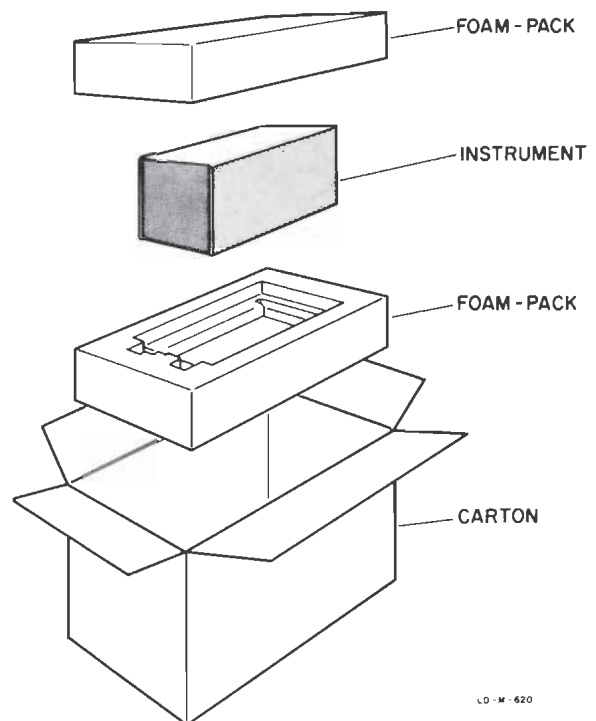

Figure 2-5. Repackaging for Shipment
2-18. The Model 431B is shipped in a foam-pack and cardboard carton (see figure 2-5). When repackaging the instrument for shipment, the original foam-pack and cardboard carton can be used if available. If not available, they can be purchased from Hewlett-Packard Co. (refer to section VI, misc). Use the following as a general guide for repackaging the instrument.
a. Place the instrument in the foam-pack as shown in figure 2-5.